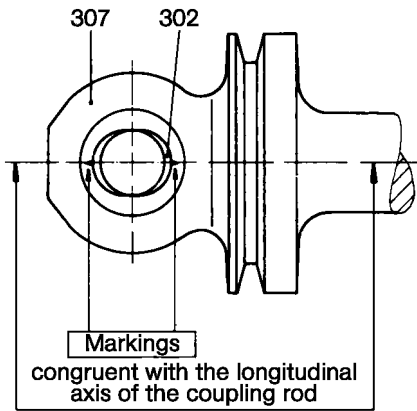

Figure 6: Pressing-in of the coupling rod bush
- Press drive shaft (118) with all mounted parts into the bearing bracket (110). Slightly oil bearing seats previously.
- Mount circlip (108).
- Push flinger ring (114) into bearing direction.
- Insert key (101) in the drive shaft (118) and lock by two punch marks on the front side.
- With a brass drift, drive bushes for coupling rod pin (303) half-way into rotor (401) (not applicable to size SNP 12.2).
- Press coupling rod bush (302) into the coupling rod (307) so that the longitudinal axis of the oval hole (marked with two notches) coincides with the longitudinal axis of the coupling rod and the coupling rod bush protrudes symmetrically from both sides of the coupling rod (please refer to Figure 6 below).